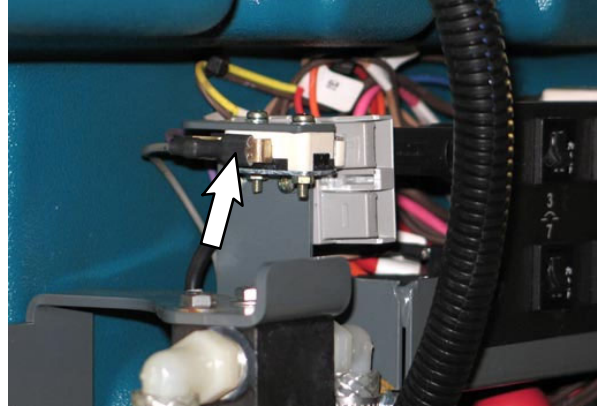
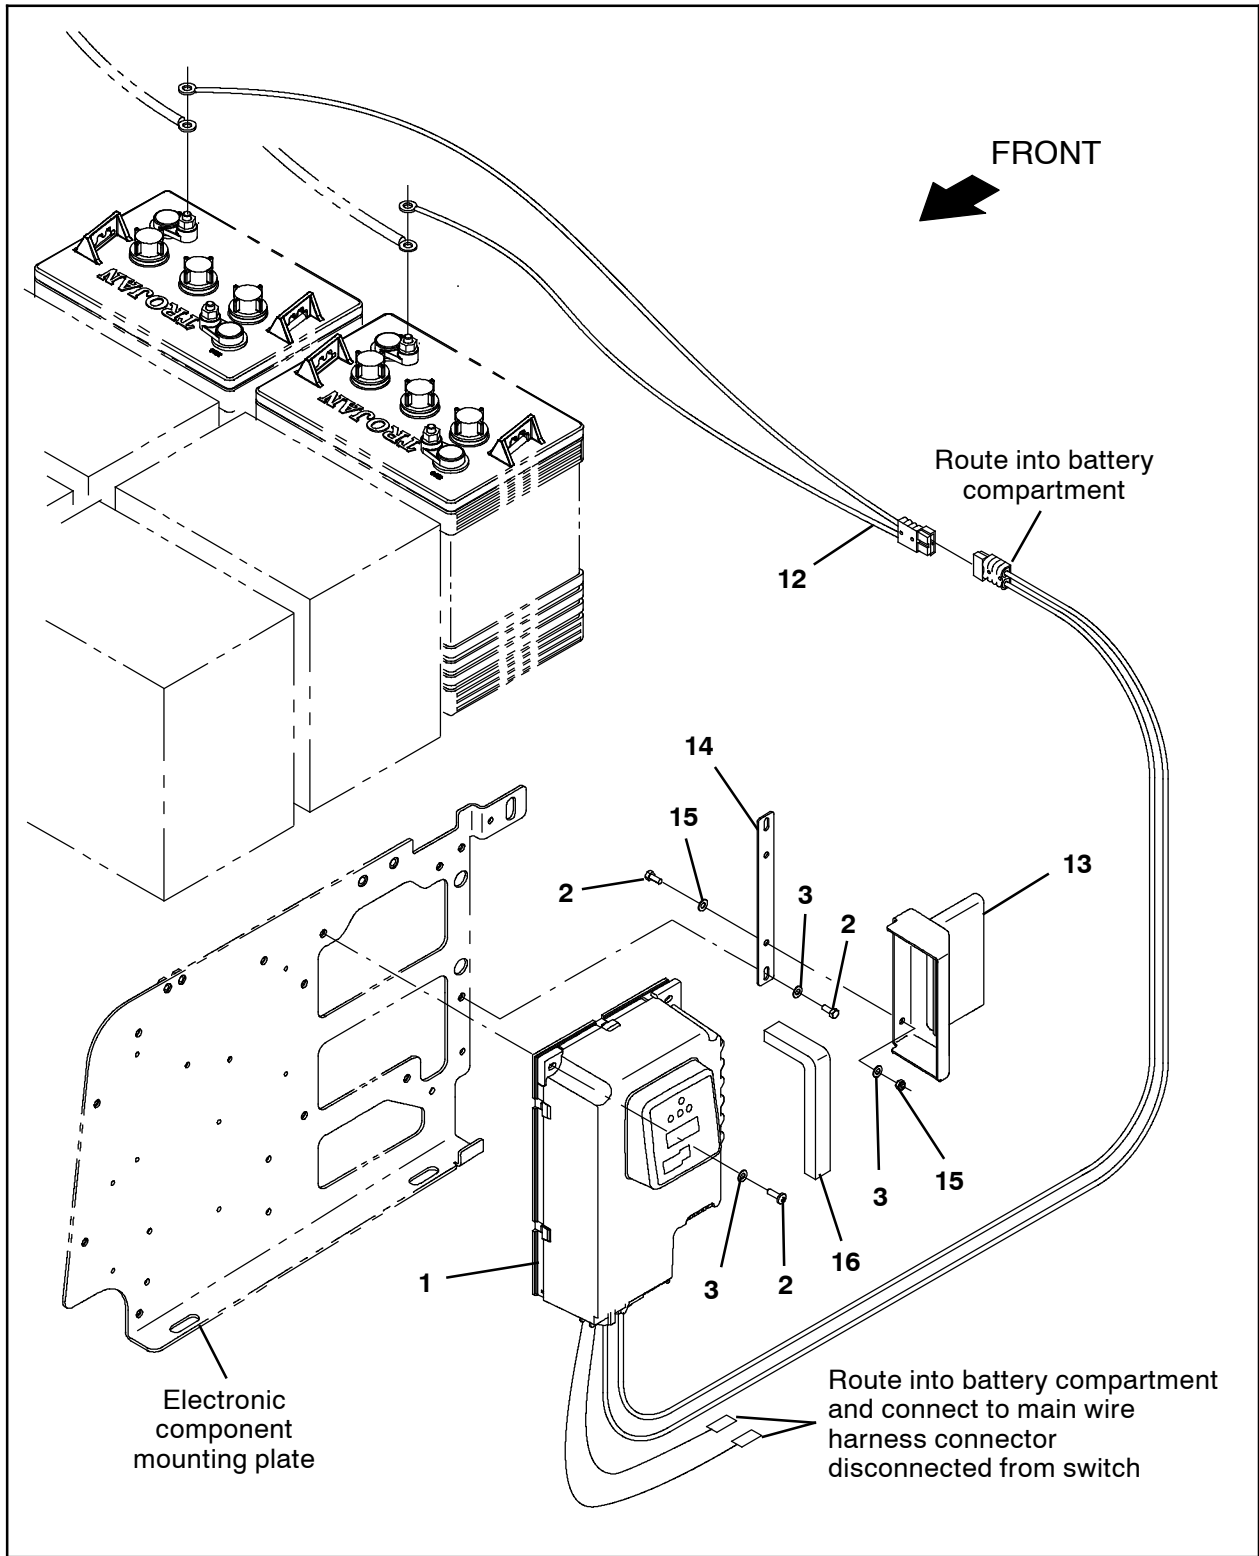

FIG. 2
FIG. 3
3. Use three M5 pan screws (2) and three flat washers (3) to install the charger (1) onto the electronic component mounting plate. (Fig. 3)
4. Remove the backing from the foam seal (16) and install the foam seal into the heat outlet duct (13). (Fig. 3)
5. Use two M5 hex screws (2), four flat washers (3), and two M5 hex nuts (15) to install the heat duct mounting plate (14) onto the heat outlet duct (13). (Fig. 3)
6. Use two M5 hex screws (2) and two flat washers (3) to install the items assembled in the previous several steps onto the electronic component mounting plate. (Fig. 3)
7. Route the charger (1) wires and cable up into the battery compartment. (Fig. 3)
8. Disconnect the main wire harness from the snap switch installed on the electrical plate located behind the operator seat. (Fig. 2)
9. Remove the snap switch from the electrical plate. Discard the snap switch and mounting hardware. (Fig. 2)
10. Connect the charger (1) wires to the wires disconnected from the snap switch. (Fig. 2/ Fig. 3)
11. Connect the cable assembly (12) to the batteries. (Fig. 3)
12. Connect the cable assembly (12) to the charger (1) cable. (Fig. 3)